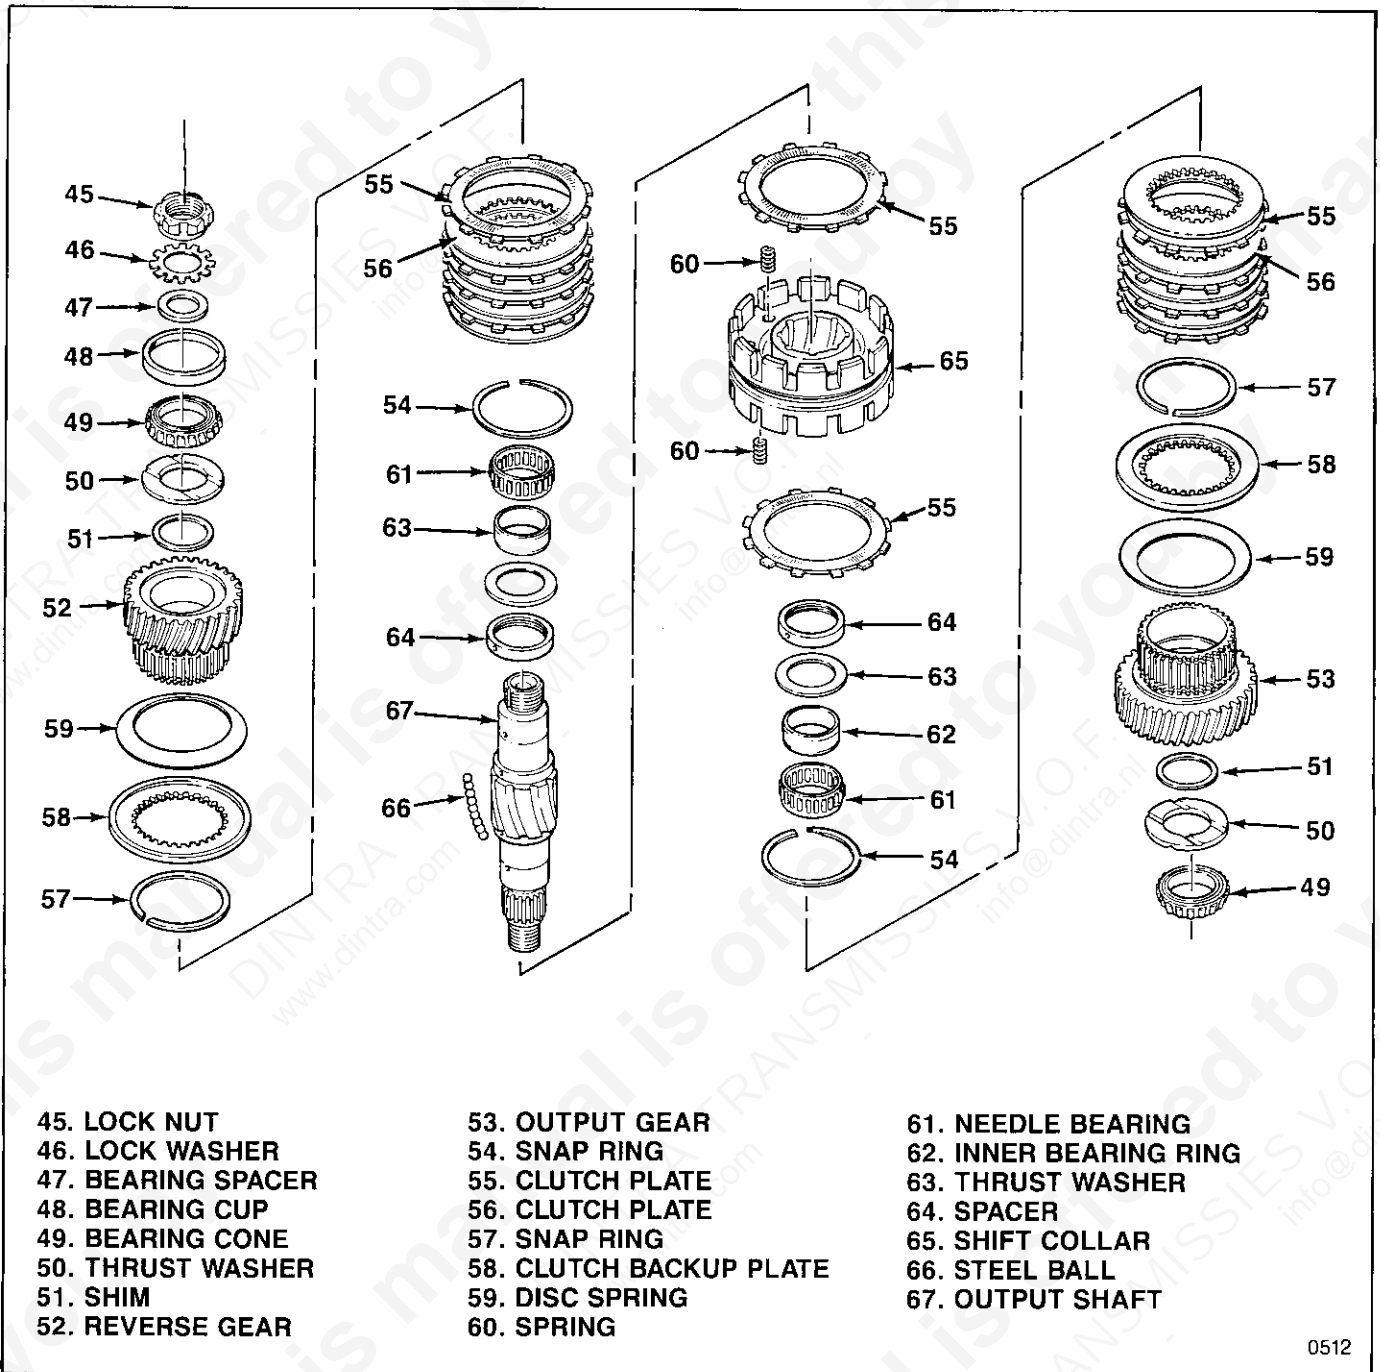
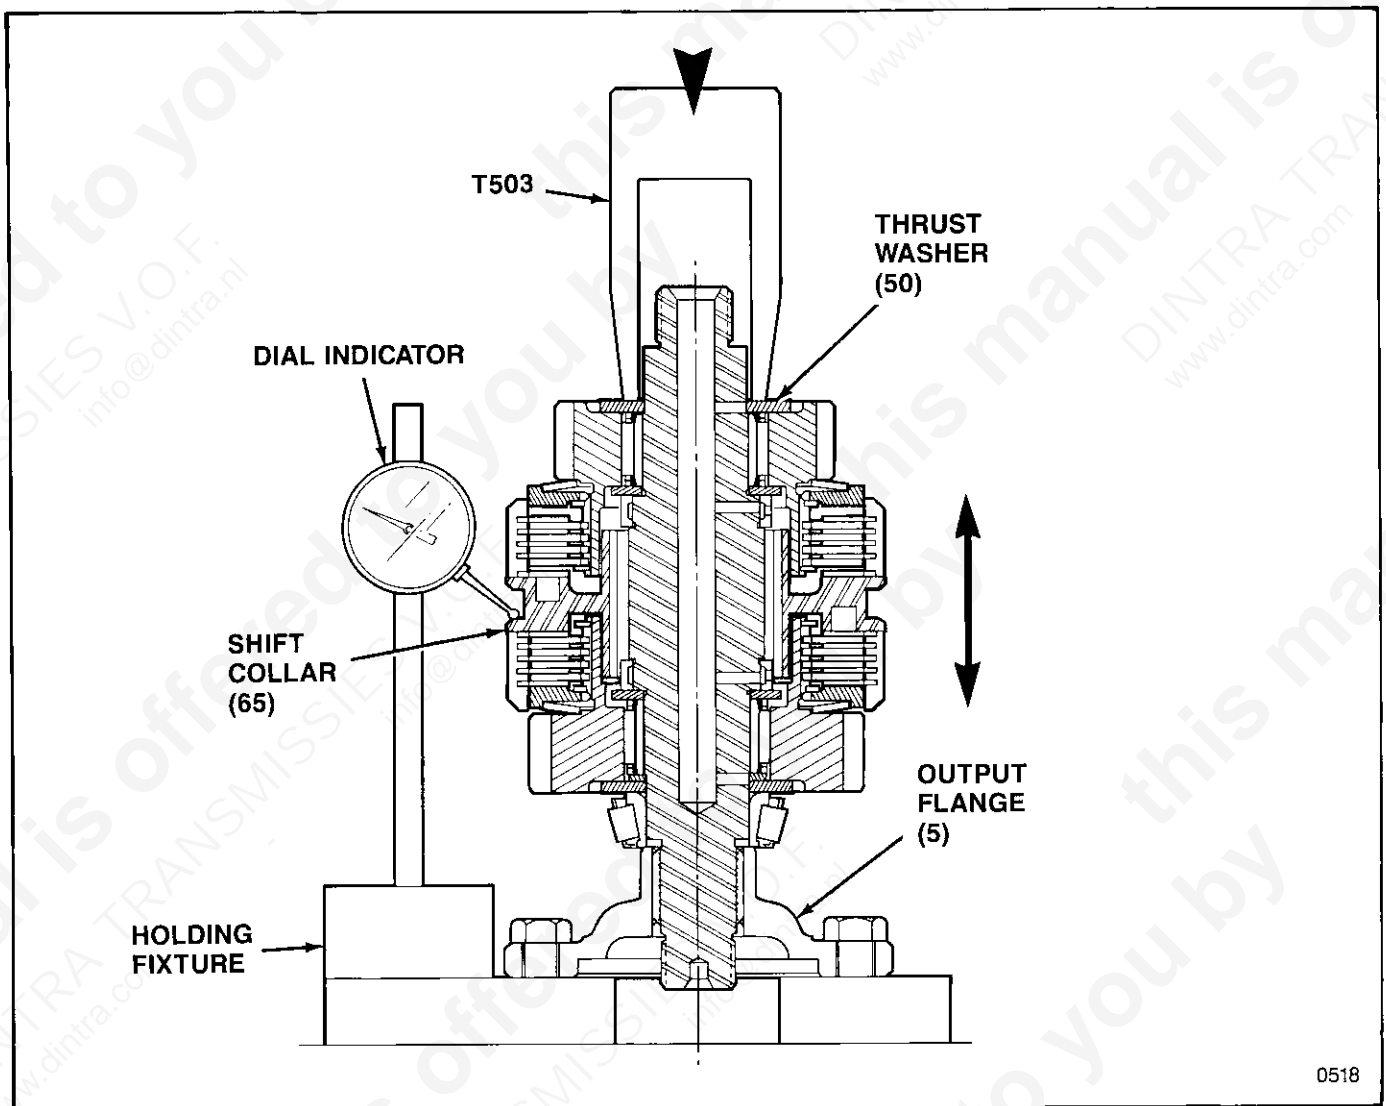

Figure 5-5. Output Shaft Group
Figure 5-6. Measuring For Output Shaft Shim
5-7. SHIMMING OUTPUT SHAFT GROUP. Determine the thickness of shims (51) required for proper shifting as follows (see figure 5-5):
1. Support output shaft (67) with splined end up, threaded end down. Install parts as follows over splined end of output shaft only:
- a. One spacer (64).
- b. One thrust washer (63).
- c. One inner bearing ring (62). Use thrust washer (50) and bearing drift T-503 to press inner bearing ring onto output shaft (67) until ring bottoms out.
- d. One needle bearing (61).
- f. Shims (51) with thickness totalling 0.073 in. (1.84 mm).
- g. One thrust washer (50).
- h. One bearing cone (49). Use bearing drift T-503 to press bearing cone onto output shaft (67) until bearing cone bottoms out.
2. Invert output shaft (67) and assembled parts and support in suitable fixture with threaded end up, splined end down. An output flange (5, figure P-1) bolted to a metal block with a central hole for shaft clearance (see figure 5-6) makes a suitable fixture. Temporarily install parts as follows over threaded end of output shaft only:
- a. Shift collar (65). Do not install steel balls (66) or springs (60) at this time.
- b. One spacer (64).
- c. One thrust washer (63).
- d. One inner bearing ring (62). Use thrust washer (50) and bearing drift T-503 to press inner bearing ring onto output shaft (67) until ring bottoms out.
- e. One needle bearing (61).
- g. One thrust washer (50). Do not install shims (51) at this end of shaft at this time.
3. Position output shaft as assembled on holding fixture in arbor press (see figure 5-6). Install bearing drift T-503 over threaded end of shaft and clamp on thrust washer (50) with press ram. Make sure parts are bottomed out but do not use excessive force.
4. Position dial indicator on bottom side of groove in shift collar (65) as shown in figure 5-6).
5. By hand, press down firmly on shift collar (65) to make sure clutch pack is bottomed out, and zero dial indicator. Next, lift up firmly on shift collar and read dial indicator. Record dial indicator reading as dimension "D".
5-8. FINAL ASSEMBLY OF OUTPUT SHAFT GROUP. Remove output shaft group as assembled on holding fixture for shim measurements from arbor press and remove bearing drift from shaft. Proceed as follows (see figure 5-5):